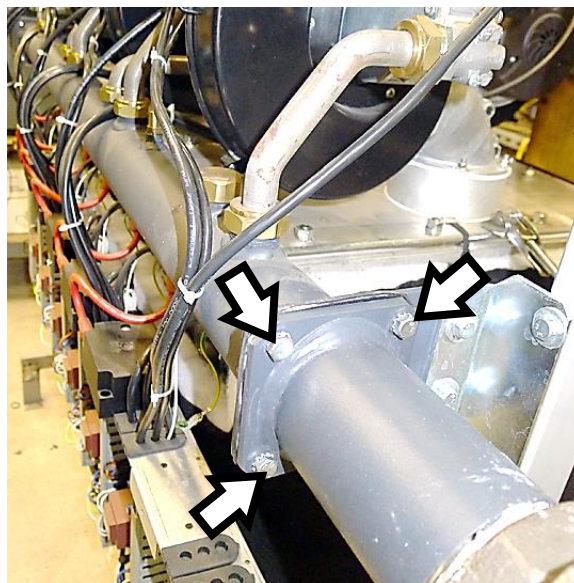

Figure 8-16: Uninstall Gas Collector Flange from Gas Supply Piping (Step 13)
12. Refer to Figure 8-16 and, using a 10mm socket wrench, remove the four bolts/nuts (white arrows) to separate the Gas Collector Tube Flange from the gas supply piping.